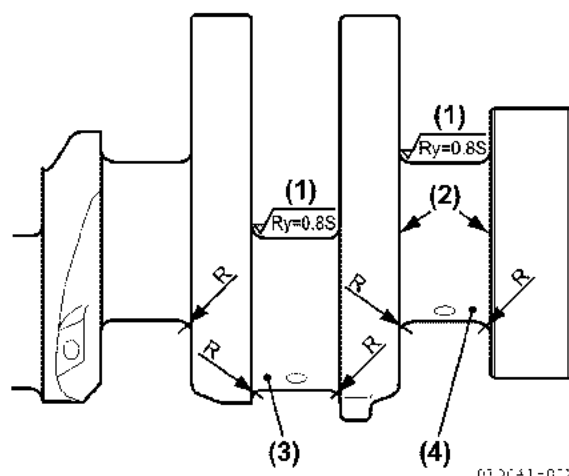

Figure 5-110
- Use dimension R for grinding the crankshaft journals and pins (Figure 5-110).